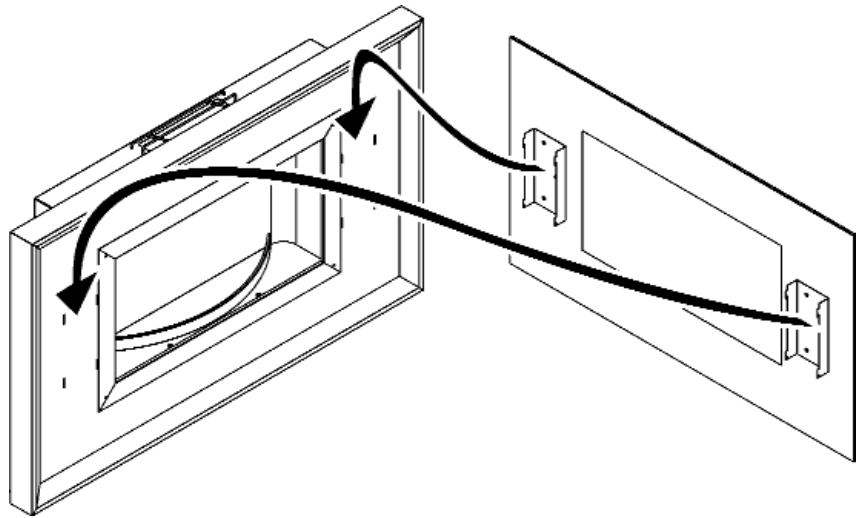

Figure 4.
- On Visia and Glamour models the glass panel that forms part of the fascia is supplied separately. Locate the glass panel hanging hooks into the slots in the heater body (See figure 4).